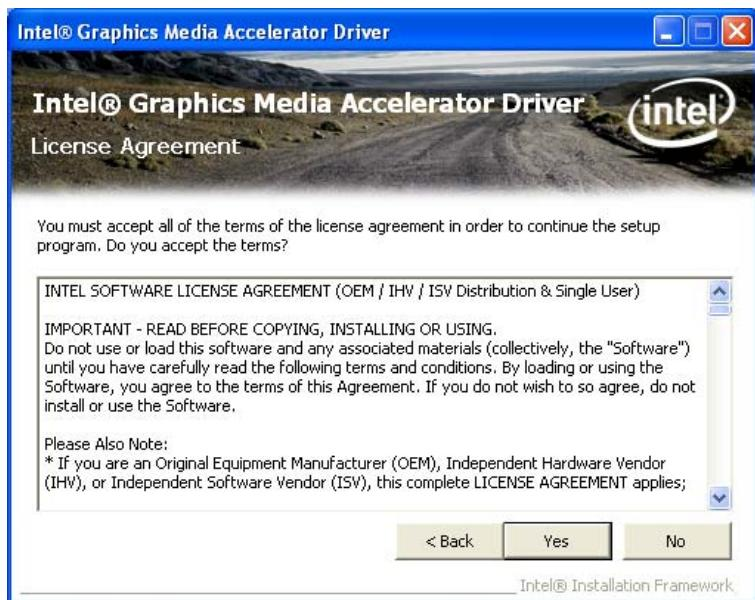

Figure 6-13: VGA Driver License Agreement
Step 8: The license agreement in **Figure 6-13** appears.